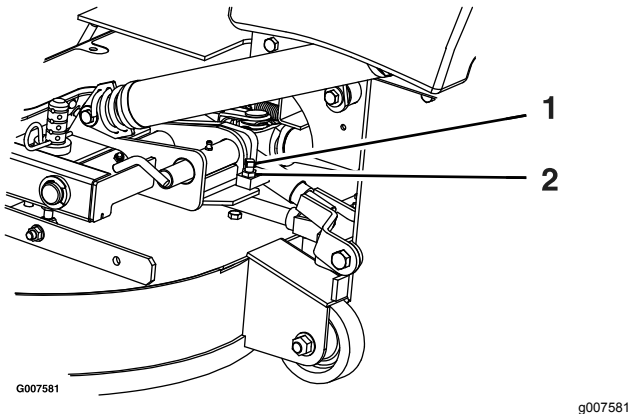

Figure 74
2. Loosen the jam nut and turn the stop screw clockwise until the locking pin is tight and cannot be rotated by hand (Figure 74).